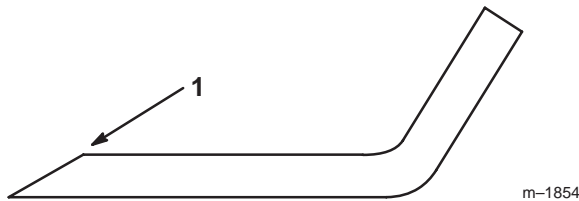

Figure 19
1. Use a file to sharpen the cutting edge at both ends of the blade (Fig. 19). Maintain the original angle. The blade retains its balance if the same amount of material is removed from both cutting edges.